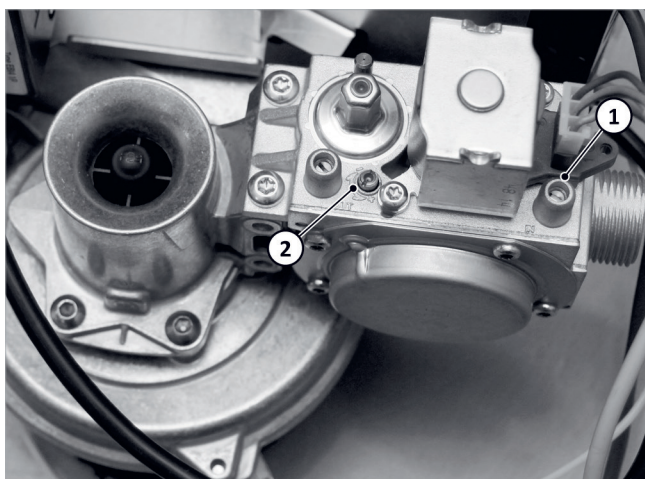

Fig. 113: Setting the burner
- The measurement connection is used to check the gas' flow pressure when the burner is in operation → fig. 113 (1).